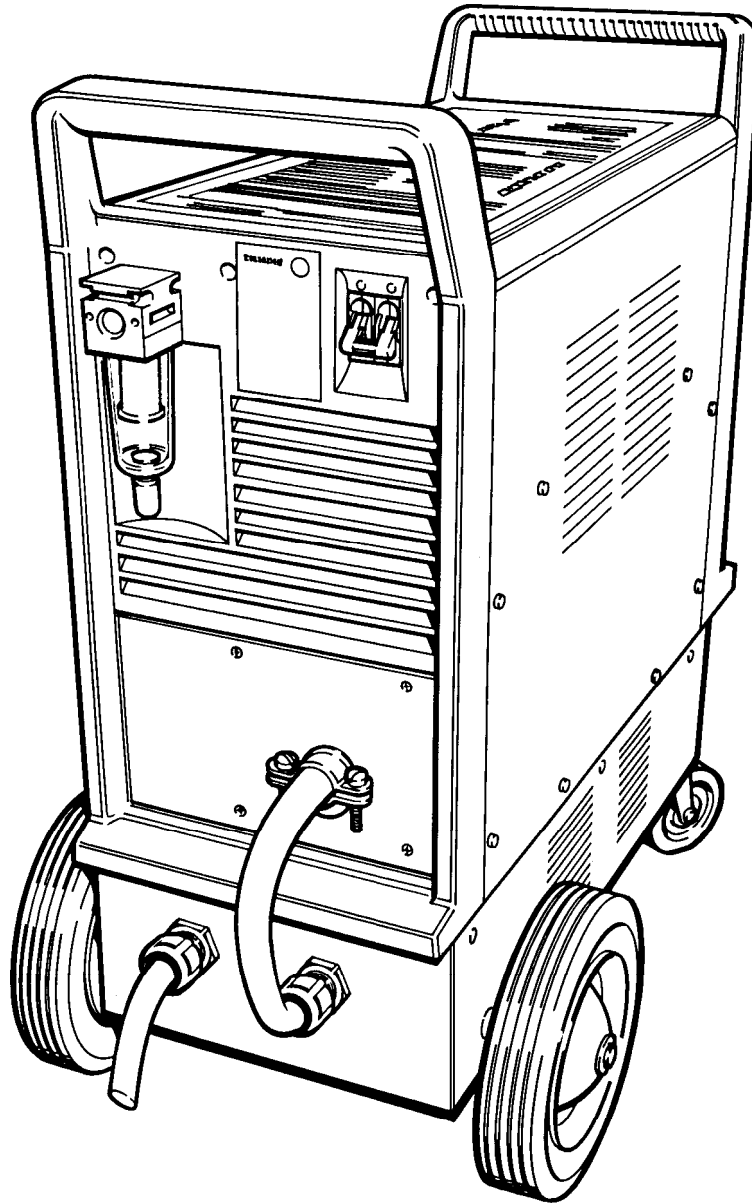

Figure 2-1 Powermax900 600V Power Supply Assembled
The instructions in this manual will enable a qualified electronics technician to convert the 208/240/480 volt Powermax900 or 208/240/480 volt Powermax800 power supply into a 600 volt power supply. The kit (128312) contains a transformer and case, wheels, castors, and 2 line cords - one to hook up to a line disconnect box or 3-phase plug, and a shorter cord to connect from the transformer case to the link box at the rear of the Powermax - See Figure 2-1. See also **Section 3** for a list of parts for the 600 volt conversion kit.
4. Tighten the strain relief screws around the power cord. Be certain that the strain relief grips the outer insulation of the power cord and not the individual wires. See completed assembly in Figure 2-1.